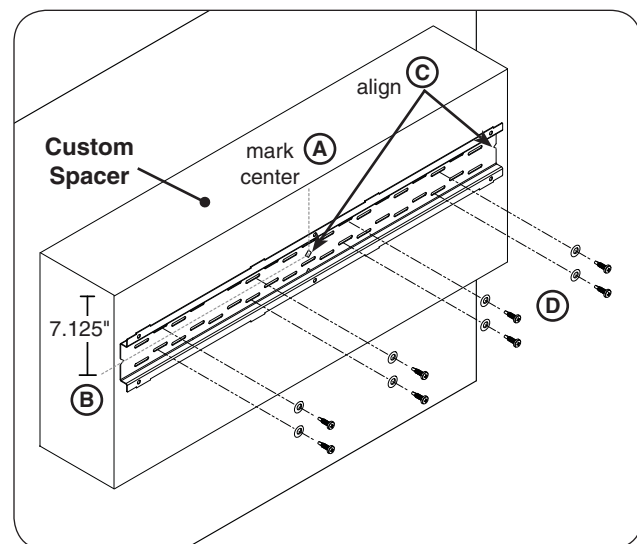

Fig. 13-2 Install wall bracket to custom spacer
1. Locate the "left-to-right" center of the spacer and pencil a vertical line. Then pencil a horizontal line 7.125" down from the top of the spacer (see Fig. 13-2, A-B).
2. Place the bracket over the two lines. Use the alignment notches in the top, bottom, center, and sides of the bracket to properly locate and assist in leveling (see Fig. 13-2, C).
3. Using appropriate mounting hardware for the spacer construction; secure the bracket onto the spacer (see Fig. 13-2, D).